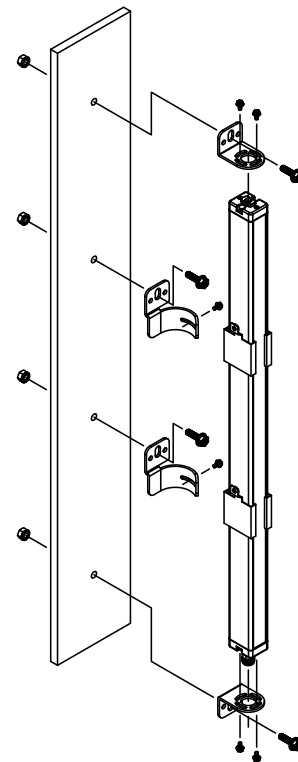

Figure 11. Emitter and Receiver Center Mounting Brackets
2. Compress the foam spacer and slide the clamp along the length of the sensor housing to align the clamp with the center mounting bracket as shown in Figure 11 on page 21. Three separate mounting holes are provided on the clamp to allow for all possible mounting configurations.